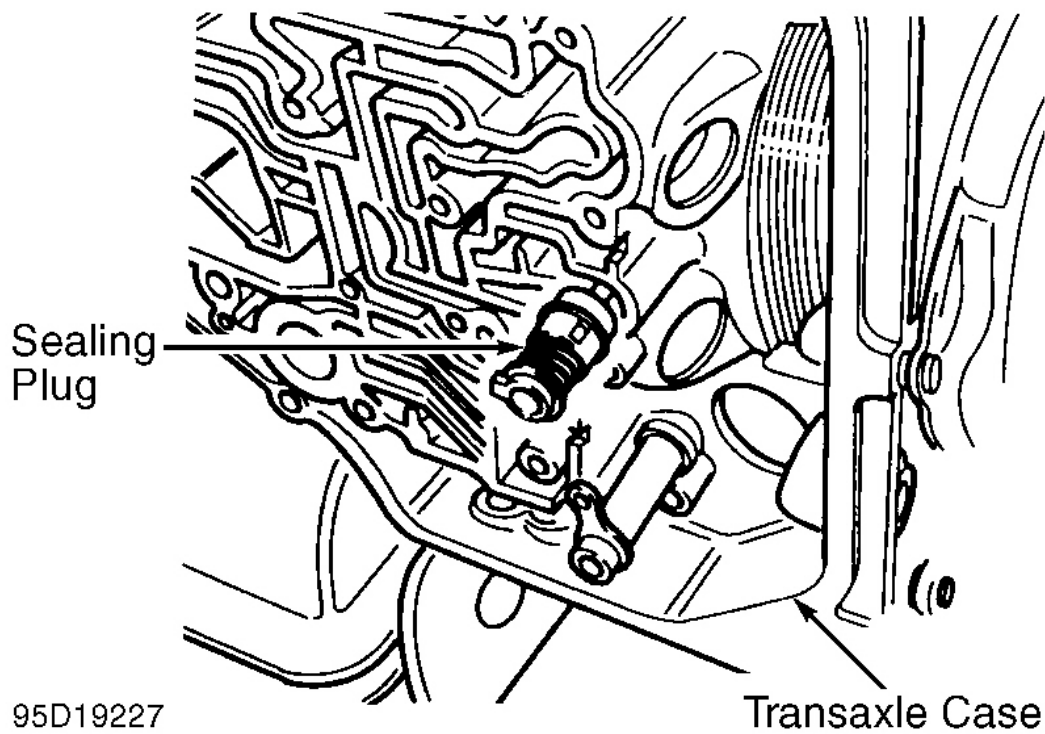

Fig. 20: Locating Sealing Plug
1. Remove torque converter. Remove oil pan and valve body assembly. Remove sealing plug from transaxle case. See **Fig. 20**.